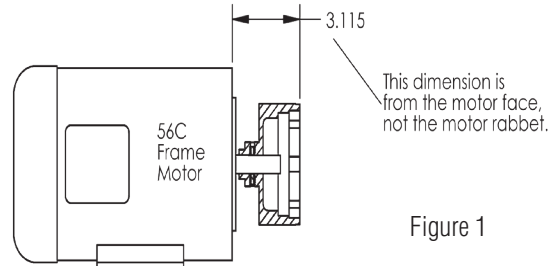

Figure 1
2. Slide drive magnet assembly (item 6) onto the motor shaft until it is between 3.110" and 3.120" as measured from the motor face to the top of the drive magnet assembly. See Figure 1. Align set screw (item 6B) with flat or key slot on the motor shaft and tighten both setscrews with a 5/32" Allen wrench to 70 in.-lbs. (7.9 N-m).
3. Carefully slide the pump assembly over the drive magnet assembly. Orient the discharge port to either the 12 or 9 o'clock position. Make sure rabbet (step) on motor is fully seated into the motor adapter (item 5). Align bolt holes in motor adapter and motor. Install (4) bolts and washers (items